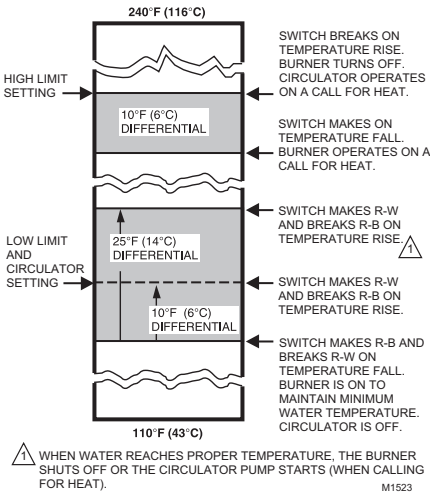

Fig. 11. R8182D,H Aquastat limit switching.
Because heating systems differ, the correct temperature setting for one system may not be correct for another. Follow the boiler manufacture recommendations for proper selection of settings. See Fig. 11
On a temperature rise, with the adjustable differential at the minimum setting of 10°F (6°C), the burner circuit (R-B) breaks and the circulator circuit (R-W) makes at the low-limit setpoint. See Fig. 11. On a temperature drop of 10°F (6°C) below the setpoint, the R-B circuit makes and the R-W circuit breaks.
2. Place setting stop over knob so that arm of setting stop (after stop is pressed into place) strikes projection A and prevents turning of knob beyond chosen limit setting (Fig. 11).